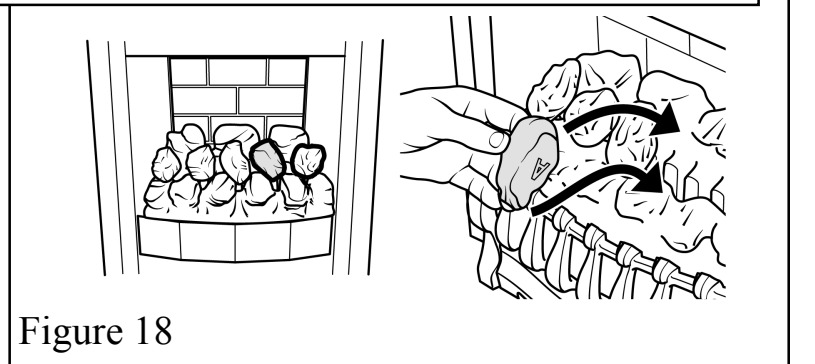

Figure 18
10. Place the remaining type "A" coal between the front and rear base coals. The letter "A" should be upside down with its rear face between the right and centre coals of the rear base coal. Angle the coal so that the gap between it and the type "B" coal to its right is appreciably larger than the gap between it and the type "A" coal to its left but do not have it touching the type "A" coal. This will give the best flame effect. See figure 18.